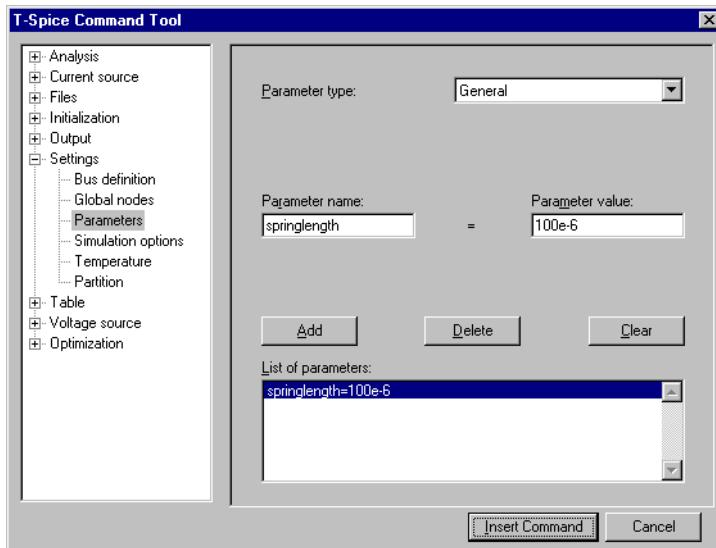

Figure 91: Customizing the setting parameters
- In the left tree, double-click **Settings** and then **Parameters**. Add the **springlength** parameter statement. Set **Parameter name** to **springlength**, and **Parameter value** to **100e-6** (Figure 91). Click **Add**. Click **Insert Command**.